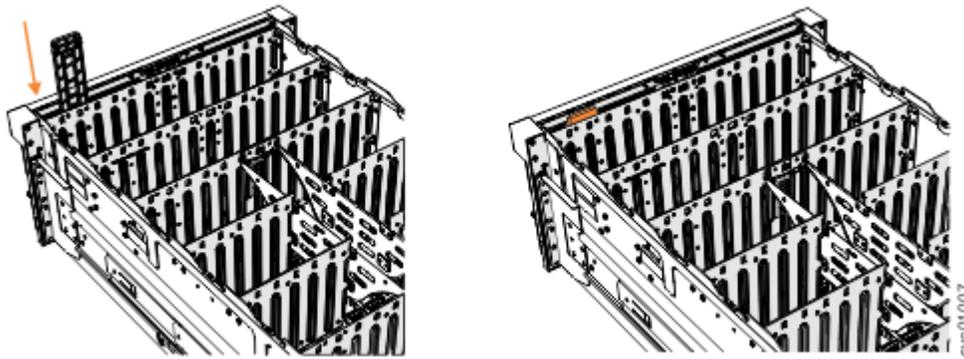

Figure 163. Installing the display panel assembly
6. Carefully align the display panel assembly in the slot at the front of the expansion enclosure, as shown in Figure 163 on page 220.